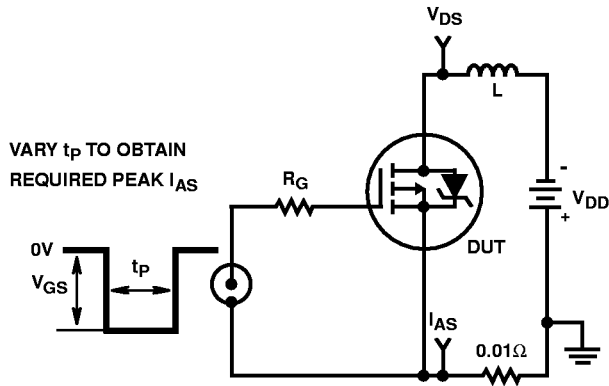

FIGURE 14. UNCLAMPED ENERGY TEST CIRCUIT
- $V_{DD} = 25\text{V}$, starting $T_J = 25^\circ\text{C}$, $L = 582\text{mH}$, $R_G = 25\Omega$, peak $I_{AS} = 0.7\text{A}$. See Figures 14, 15.